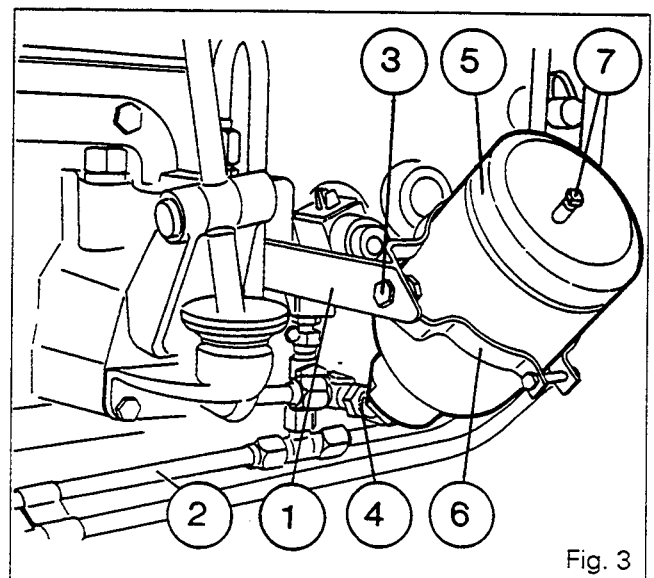

Fig. 3
The movement of the two reduction devices into the Tortoise range drives the rear axle connecting shaft at a speed of 1 revolution per 7.8 revolutions of the box input shaft. When lever A is moved back to the Hare position, the transmission of movement is direct (ratio of 1:1). The tractors having the «super creeper speeds» version are fitted with an accumulator (Fig. 3) connected to the pipe (2) coming from the 17 bar valve. The purpose of this is to reduce the pressure drop when the super creeper range is engaged. This device is held by a bracket fixed to the selection cover.
For correct operation, maintain nitrogen inflation pressure of 8 bar, using the valve (7) (Fig. 3).